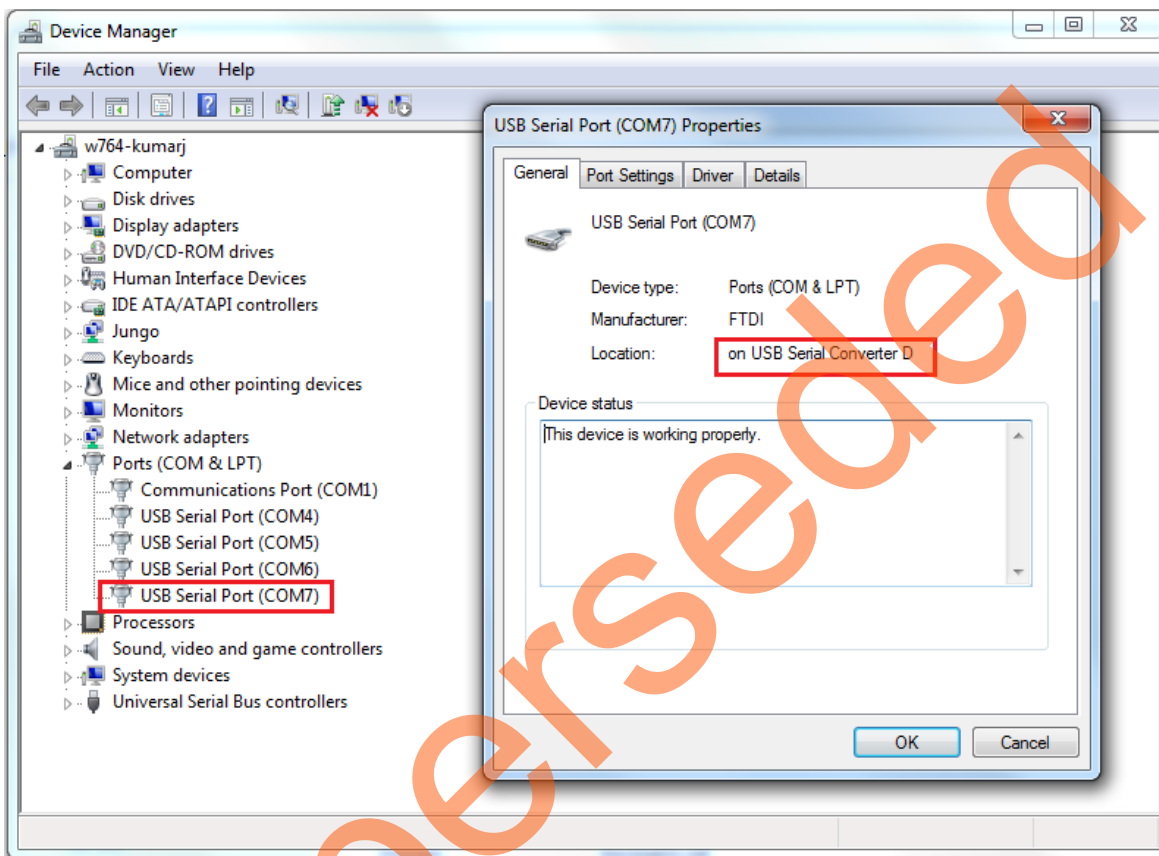

Figure 15 • USB Serial 2.0 Port Properties
5. Ensure that the USB to UART bridge drivers are automatically detected. This can be verified in the **Device Manager** of the Host PC. The FTDI USB to UART converter enumerates four COM ports. For USB 2.0, note down the USB Serial Converter D COM port number to use it in the GUI. Figure 15 shows the USB 2.0 Serial port properties. As shown in Figure 15, COM7 is connected to USB Serial Converter D. Refer to "Appendix B: Finding the Correct COM Port Number When Using the USB 3.0" on page 32 for finding the correct COM port in USB 3.0.